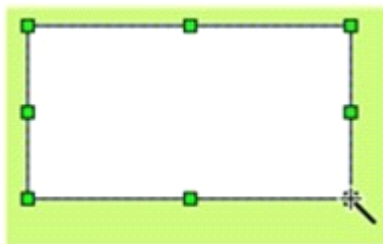

Figure 4-35: Drawing a rectangle
- Move the mouse to another position in the screen, and at this moment the system will draw a rectangle automatically. Then, left click the mouse. See Figure 4-35.